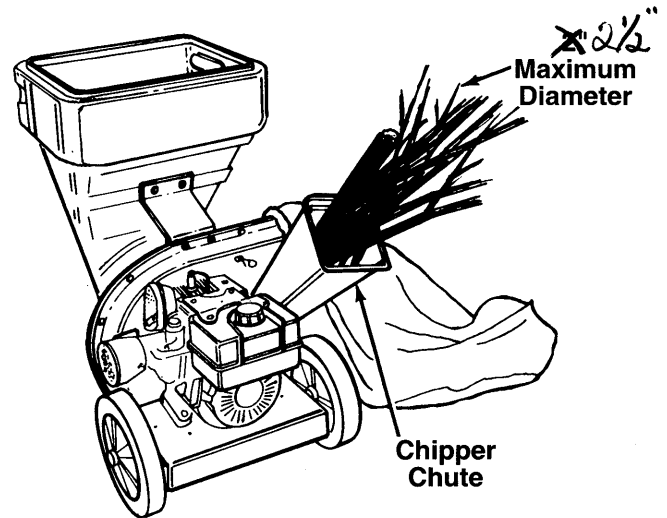

FIGURE 8.
2. Bulky material, such as stalks or heavy branches, up to 2 1/2" in diameter should be fed into the chipper chute. See figure 8.